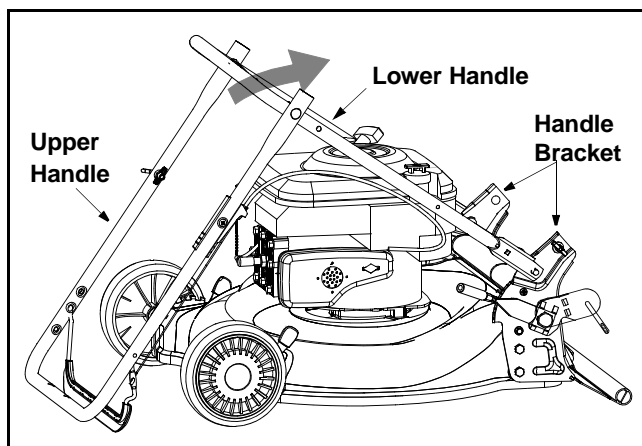

Figure 2
- Lift up and pull back on the upper handle to raise the handle into the operating position. See Figure 2. Make certain the lower handle is seated securely into the handle bracket assemblies.